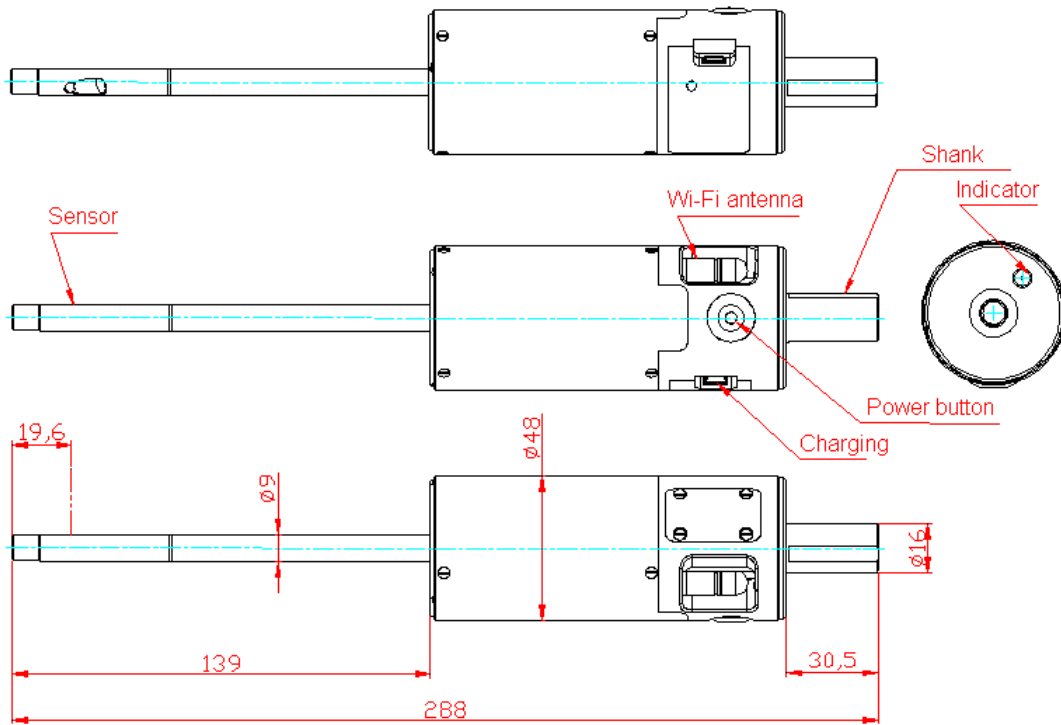

Figure 4.1 - RF609-9/19-139-Wi-Fi
Use the shank to install the probe in the collet chuck, see Figures 4.1 and 4.2. The diameter of the controlled hole must match the working range of the probe.
- Switch on the probe by pressing the power button, see Figure 4.1.